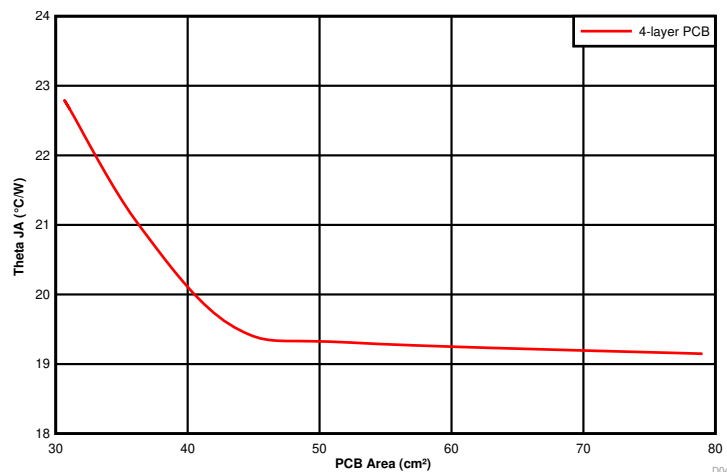

Figure 45.  $R_{\theta JA}$  versus PCB Area (per layer)
The amount of PCB copper affects the thermal performance of the device. Figure 45 shows the effects of copper area on the junction-to-ambient thermal resistance ( $R_{\theta JA}$ ) of the TPSM53602. The junction-to-ambient thermal resistance is plotted for a 4-layer PCB with PCB area from 30 cm2 to 80 cm2.
3. Reference Figure 45 to determine the minimum required PCB area for the application conditions.